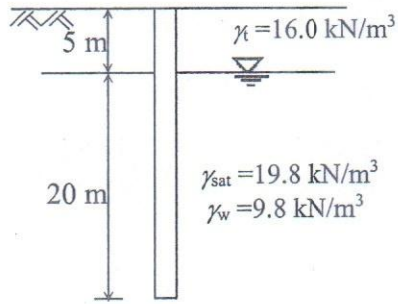

Fig.2
- (b) Compute the dimensions of a trapezoidal combined footing ( $B_1$ ,  $B_2$  and  $L$ ) for supporting two columns (in column 1,  $Q_1= 20.0$  MN, in column 2,  $Q_2=28.0$  MN) placed at a distance of 6.0 m. The first column is located at 2.0 m from the property line. The net allowable bearing capacity of the ground is 500 kPa. (10)
- 3 (a) Briefly explain the types of mat foundation with sketches. (7)
- (b) Compute the foundation depth ( $D_f$ ) for a partially compensated mat foundation (50m X 60m) in fully saturated soils ( $\phi = 10^\circ$ ,  $c = 55.0$  kN/m2,  $\gamma_{\text{sat}} = 19.8$  kN/m3). Consider factor of safety, FS=3.0; dead load, DL=500 MN; live load, LL=400 MN. Use, Meyerhof shape and depth factors. Use,  $\gamma_w = 9.8$  kN/m3. (18)
- 4(a) Briefly explain the purposes of pile as a foundation of a structure. Write down the classifications of pile based on foundation of pile with sketches. (8)
- (b) Find the allowable bearing capacity of a reinforced concrete pile (diameter = 0.8 m) (17) with a total length of 25.0m driven in medium dense sand. The  $K$  and  $\delta$  values are found to be 1.20 and  $0.90\phi$ , respectively. The soil profile is shown in Fig. 2. The angle of internal friction of soil,  $\phi = 28^\circ$ . Use, factor of safety  $FS=3.0$ .